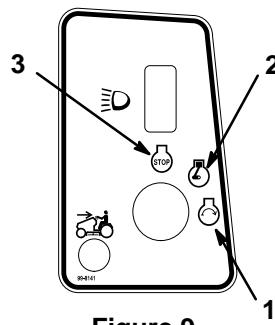

Figure 9
5. Turn the ignition key clockwise and hold it in the “START” position (Fig. 9). When the engine starts, release the key.
- Turn the ignition key to “OFF” (Fig. 9).